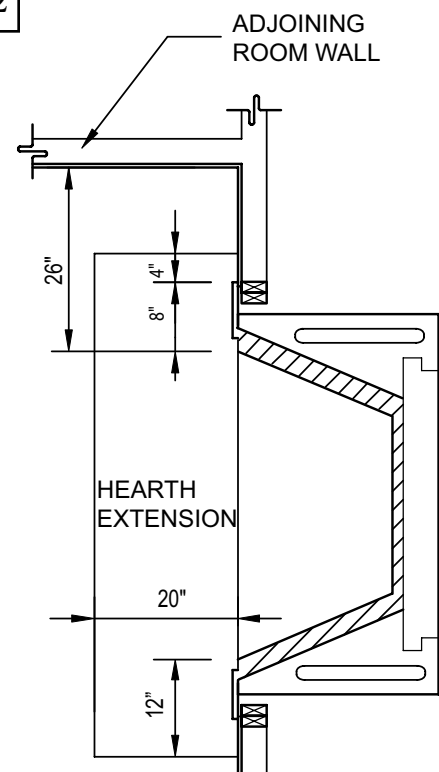

FIGURE 83
The veneer facing, when installed, must present a tight seal with the leading edge - the room edge - of the MAGNUM fire brick lining at the sides of the MAGNUM firebox opening. (Figure 83)
All MAGNUM fireplaces shall have hearth extensions of brick, concrete, stone, tile or other code approved noncombustible material. Suitable hearth extension material for the MAGNUM fireplace shall be placed on the hearth extension's noncombustible substrate and must extend to at least twenty inches (20") in front of the fireplace's finished opening and must extend to at least twelve inches (12") beyond the sides of the finished fireplace opening. (Figure 83)
**Adjoining Walls.** Side walls and walls to rooms adjoining MAGNUM fireplace installations cannot be closer than twenty-six inches (26”) to the finished fireplace opening. (Figure 83)